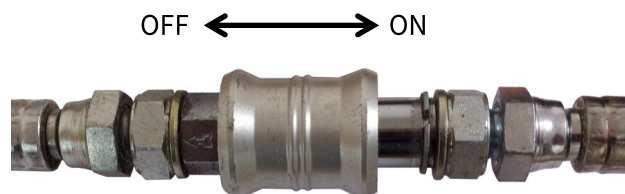

Figure 21
5.16 Switch on the air at the compressor. Switch on the air at the Lubricator Unit using the Air Power On/Off button. The orange centre button turns the air on and the black outer rim button switches the air off. Figure 21 shows the Air Power button in the ON position. If necessary increase pressure by pulling the regulator upwards and turn clockwise. Refer to page 5 for correct pressure gauge reading—lift up regulator and adjust.